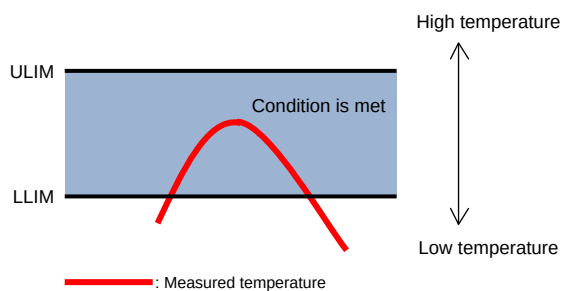

Figure 7.11-2 Comparison Conditions
- The S12TSUADCMPPI signal is driven to the low level when the result of comparison meets the condition (**Figure 7.11-2**), and the comparison result interrupt is generated.
- The CMPF bit of the sensor interrupt status register is set to 1 when the result of comparison meets the condition (**Figure 7.11-2**) and the comparison result interrupt status flag is set, but the interrupt is masked.